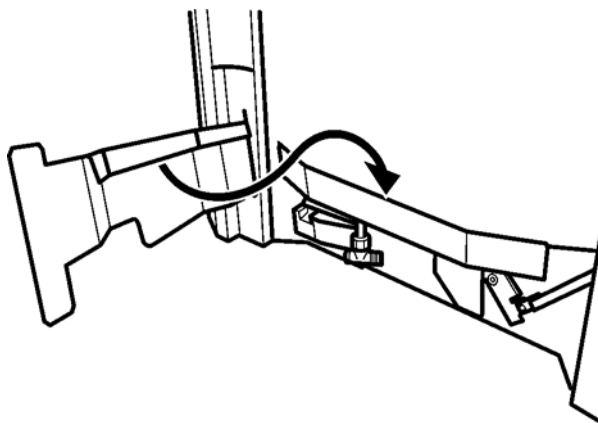

Figure 34. Fitting the burner baffle
5. Fit the burner baffle to the front flanges of the burner. To do this, place the baffle against the front flanges of the burner and lower into position. The return edges on the rear of the baffle should slot over the front flanges of the burner (See figure 34).